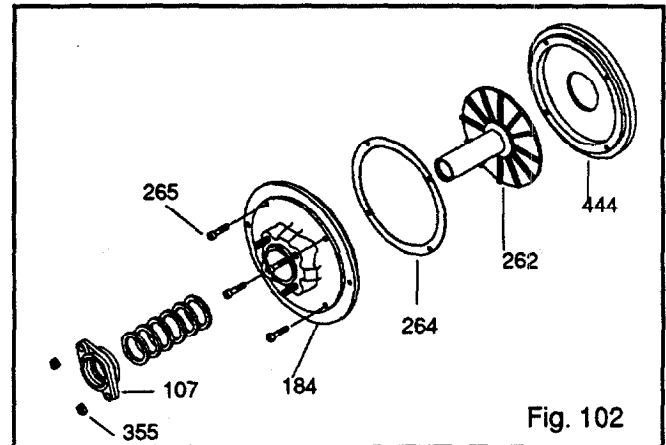

Fig. 102
1. Place backplate (444) flat side down on the bench (Fig. 102).
2. Place repeller (262) in backplate (444), sleeve side up.
3. Place teflon gasket (264) on backplate (444), lining up holes.
4. Place stuffing box cover (184) on backplate (444), lining up holes.
5. Install four (4) socket head cap screws (265), tighten securely.
7. Install gasket (360Q) and gland (107) on stuffing box cover (184). Install nuts (355).